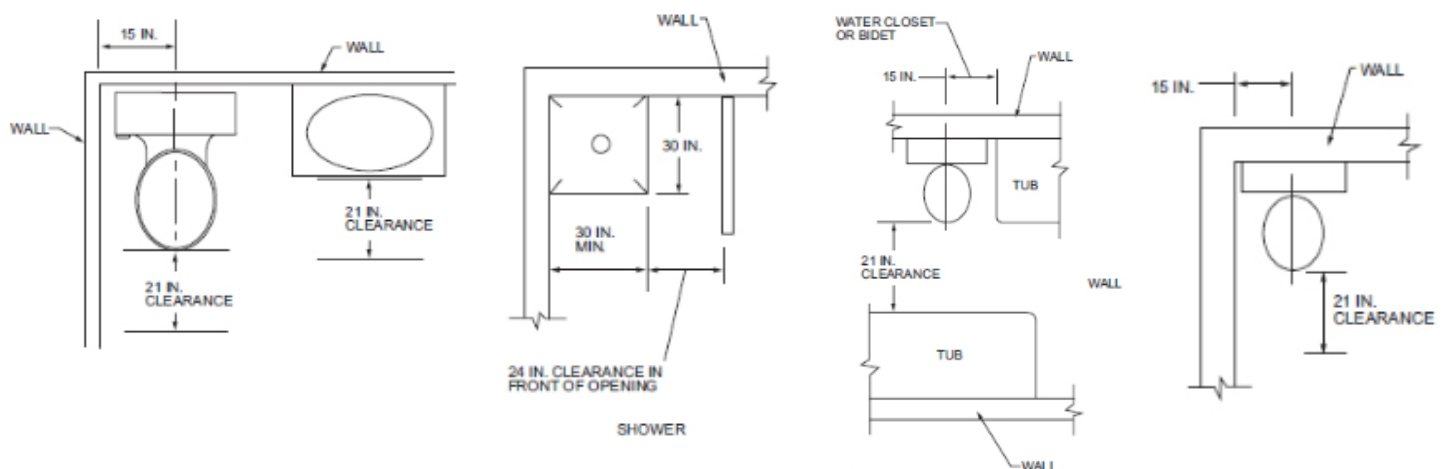

FIGURE 1: Bathroom Fixture Clearances
- Bathroom layout does not provide for minimum fixture clearances. See fig. 1